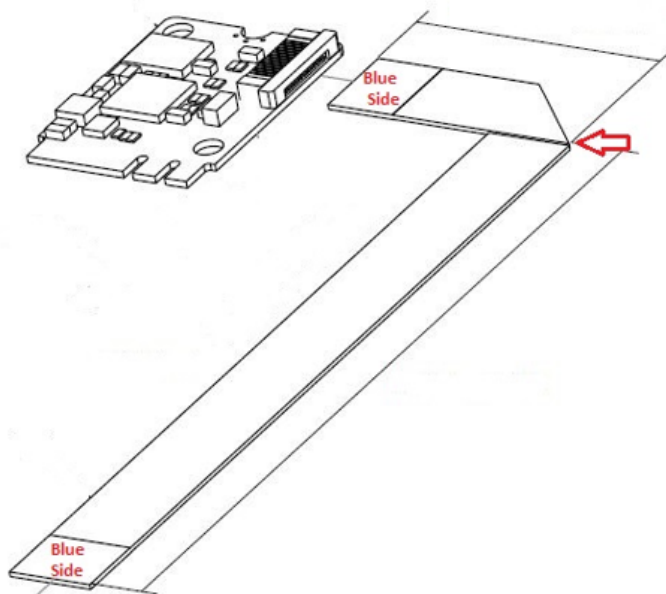

Figure 16. Folding the Ribbon Cable
3. Fold a 90 degree angle at the mark. See Figure 16.